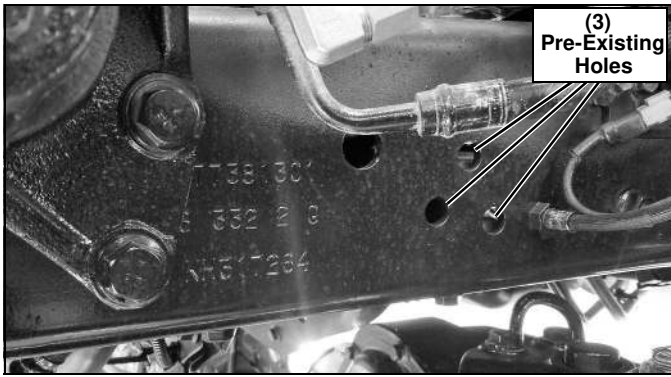
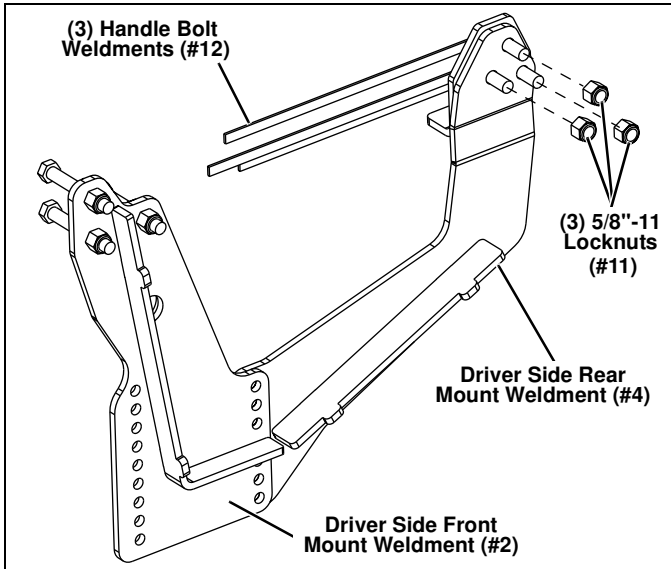

Figure 3
Figure 4
3. Approximately 2 feet back in the frame rail is a set of three pre-existing holes. (See Figure 3.) Align those holes with the ones in the Driver Side Rear Mount Weldment (#4). Secure into place with (3) 5/8"-11 x 2" Handle Bolt Weldments (#12) and (3) 5/8"-11 Locknuts (#11). (See Figure 4.)
NOTE: Place Driver Side Rear Mount Weldment (#4) behind Driver Side Front Mount Weldment (#2). (See Figure 4.)